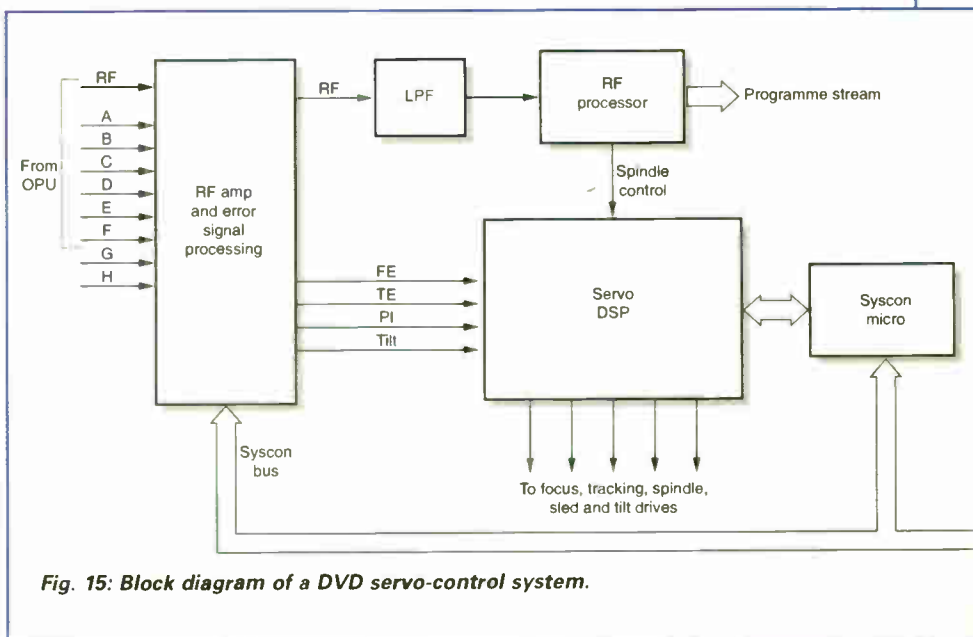

Fig. 15: Block diagram of a DVD servo-control system.
Fig. 15 shows the basics of a DVD player servo control system in block diagram form. The RF amplifier receives the OPU's RF output signal, which it passes to the RF processor via a low-pass filter. It also receives separate signals from the various photodiodes, including skew sensor diodes G and H. These are processed to produce four error signals: focus error (FE), tracking error (TE), pull-in (PI) and tilt (or skew) error.